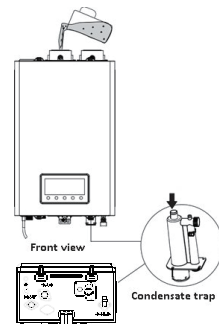

Figure 32
1. Locate the condensate drain on the bottom of the water heater and remove the drain cap. (See Figure 32)